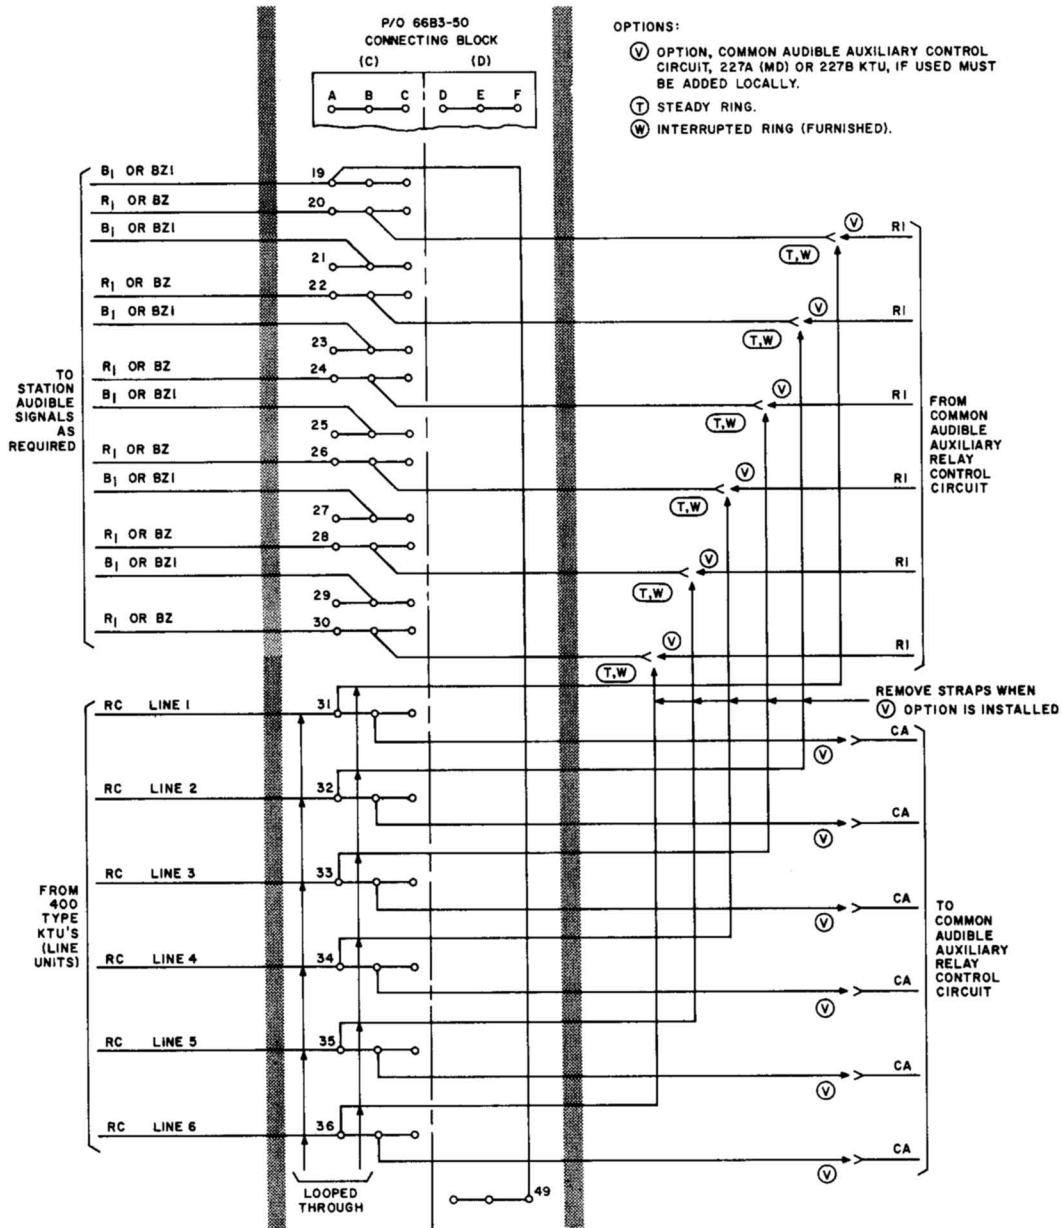

Fig. 3—Common Audible Connections for Auxiliary Relay Control Circuit
4.04 See Fig. 3 for common audible signaling connections.